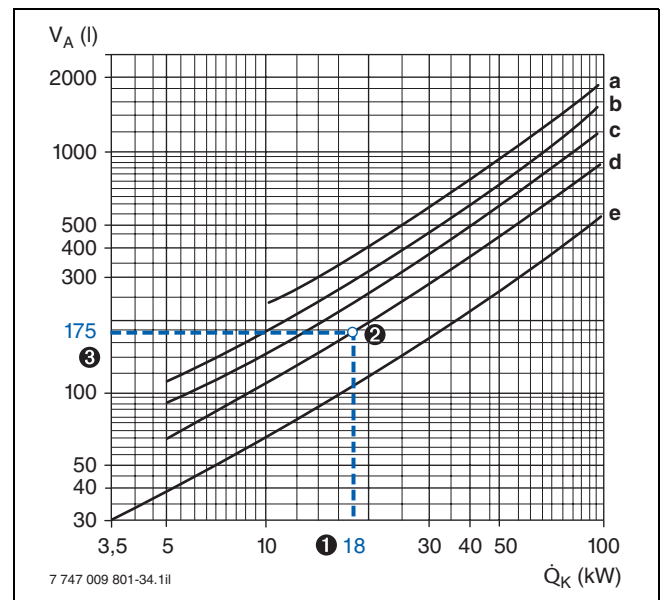

Fig. 64 Standard values for the average water content of heating systems (acc. to ZVH guideline 12.02 [Germany])
Subject to various heating system parameters, the system volume can be checked in fig. 64.
(→ fig. 64, curve d)
The system volume checked in accordance with point ③ from fig. 64 must be less than the maximum permissible system volume ④. Select a larger diaphragm expansion vessel if that is not the case.
- ① Flow temperature ( $\rightarrow$  tab. 27):  $\vartheta_V = 50\text{ °C}$
- ② MAG pre-charge pressure ( $\rightarrow$  tab. 27):  $p_0 = 1.00\text{ bar}$
- ③ System volume ( $\rightarrow$  fig. 64):  $V_A = 175\text{ l}$
- ④ A MAG with 18 l capacity is required ( $\rightarrow$  tab. 27), as the system volume ③ determined in accordance with fig. 64 is less than the maximum permissible system volume.